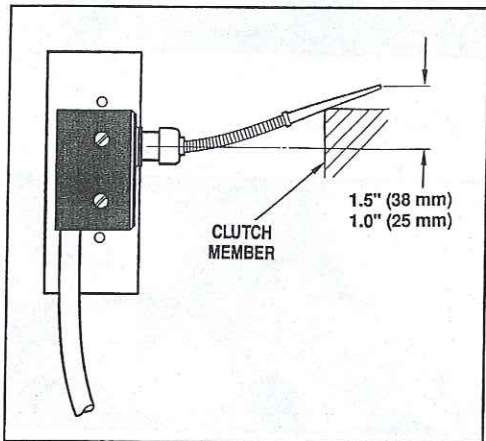

Fig. 36
3. Adjust the switch by moving the switch along the mounting bracket. The actuator arm should be deflected 1.0 - 1.5 in. (25 - 38 mm), measured at the tip of the actuator, when the clutch pedal is in the up (clutch engaged) position. See Fig. 36.